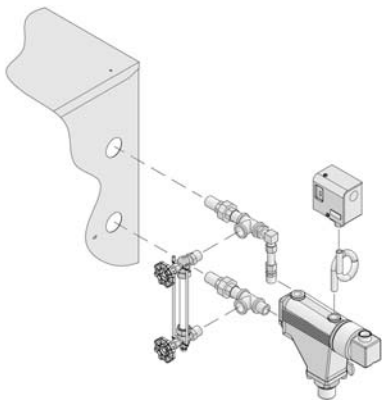

Figure 8: Float-Type Low Water Cut-Off and Pressure Limit Installation
See Figure 8.
- a. Float LWCO only: Remove $\frac{1}{4}$ " NPT plug from top of Low Water Cut-Off. Install Syphon and Limit into this tapping. See Figure 8.